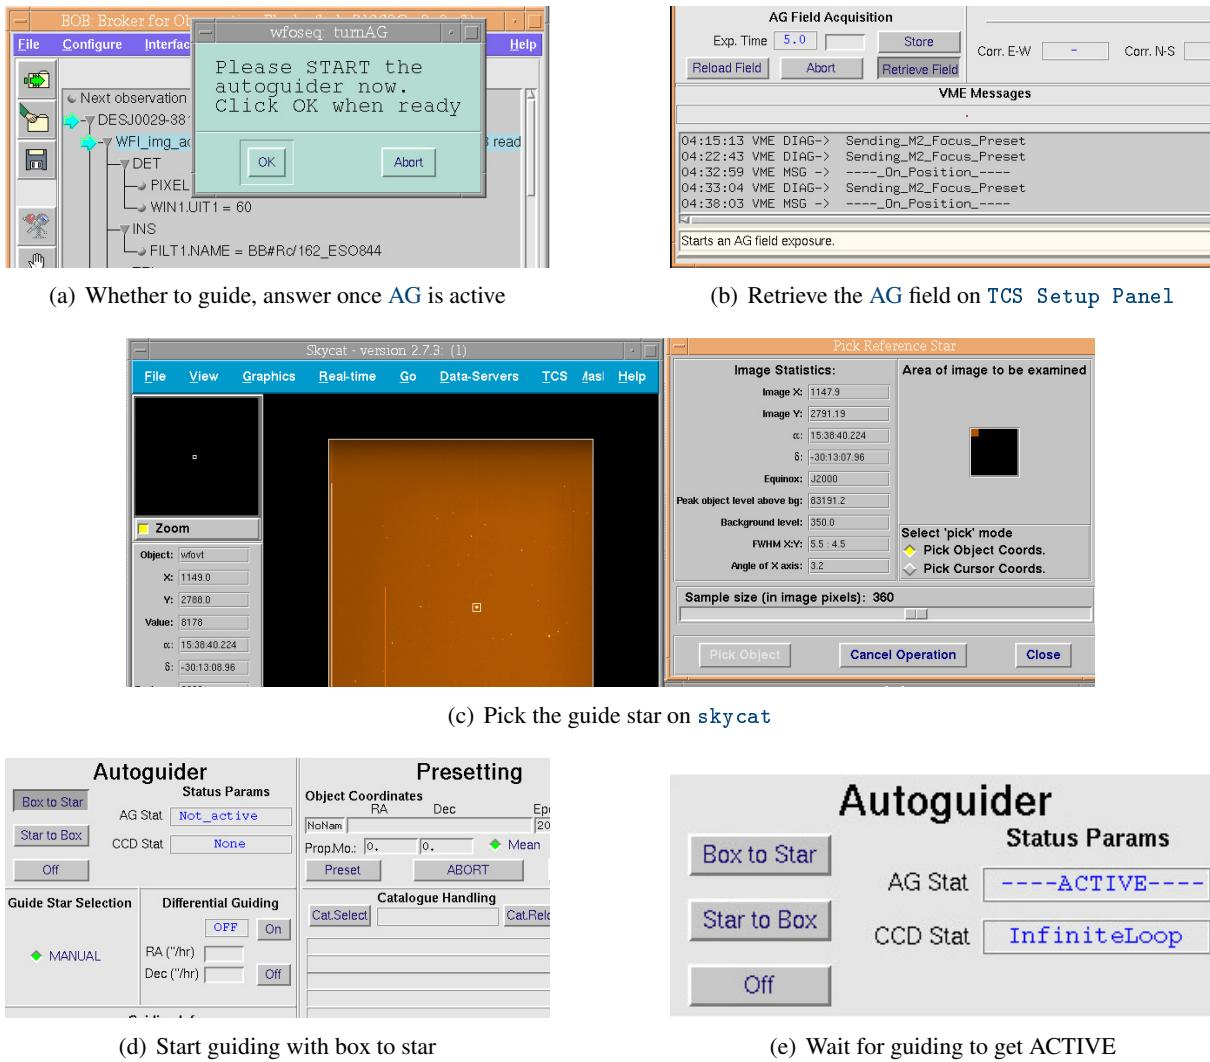

Figure 6.2: Setting the WFI AG for targets outside the solar system
A graphical outline of the procedure is given in Fig. 6.2, p. 58 in the case no differential guiding (for solar system bodies) is needed.
- A. On the TCS workstation, acquire the guide field (Fig. 6.2(b), p. 58)
- C. On the autoguider windows (Fig. 11.4, p. 118), choose the guide star (Fig. 6.2(c), p. 58)
D1. Activate the guiding (Fig. 6.2(d), p. 58)
D2. Wait for guiding to start (Fig. 6.2(e), p. 58)
E. Proceed with the observation, typically by clicking on pop-up asking for guiding (Fig. 6.2(a), p. 58)
- D2. Wait for guiding to start (Fig. 6.2(e), p. 58)
E. Proceed with the observation, typically by clicking on pop-up asking for guiding (Fig. 6.2(a), p. 58).